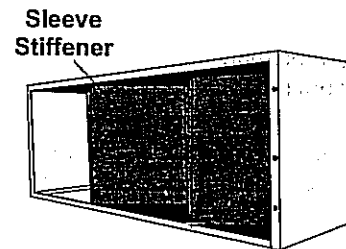

Figure 7- Sleeve Stiffener Removal
1. Remove the zig-zag folded cardboard sleeve stiffener (Figure 7).